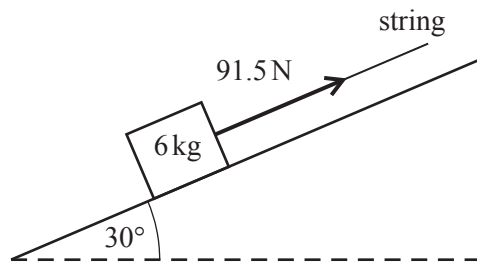

Fig. 2.2
- (b) Fig. 2.2 shows a block of mass 6 kg on a uniformly rough plane that is inclined at 30° to the horizontal.